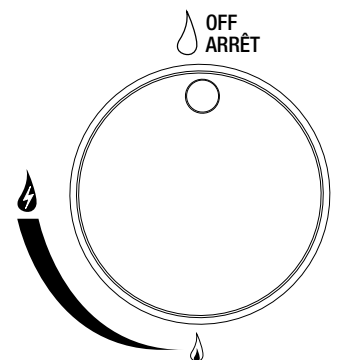

Figure 3
- Make sure control knobs are in the "OFF" position (Figure 3).
- All control knobs must be in the "OFF" position (Figure 3).
- All control knobs must be in the “OFF” position (Figure 3).
- Control knob must be in the “OFF” position (Figure 3).